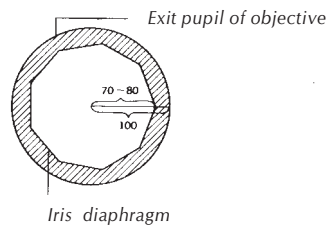

Fig. 4.4
- Open the condenser iris diaphragm to 70%–80% to adjust the contrast so that the field is evenly lighted (Fig. 4.4) .